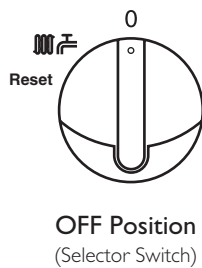

Fig. 7
5.3 To Shut Off the Boiler (Fig. 7)